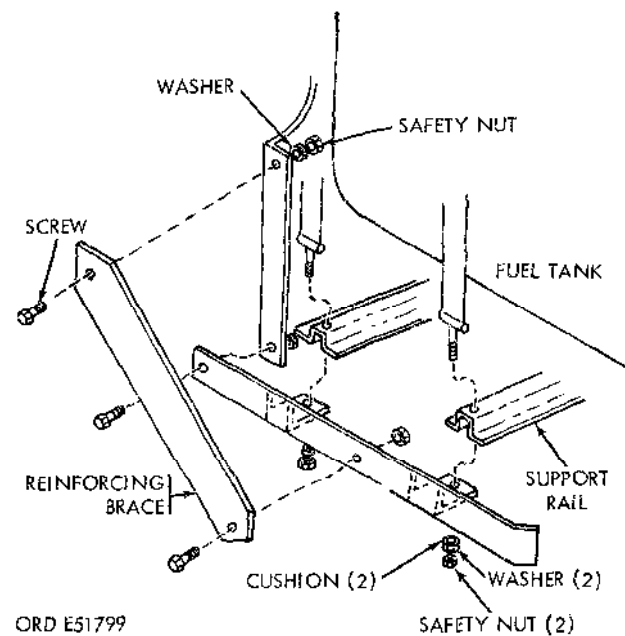

Figure 2-91. Braced fuel tank.
On vehicles with a braced fuel tank (fig. 2-91), it is necessary to remove the reinforcing brace before the fuel tank can be removed. Remove the two bolts, nuts, and washers that retain the brace.
- (4) On vehicles without braced support rails (fig. 2-91), remove the tank as follows: Remove the nut, washer, and cushion attaching the retaining strap to the support rails. Remove the fuel tank.
(1) Position the tank and retain it with the strap, cushion, washer, and nut (fig. 2-91).
On those vehicles with a braced tank (fig. 2-91), secure the brace with two washers, bolts, and nuts.